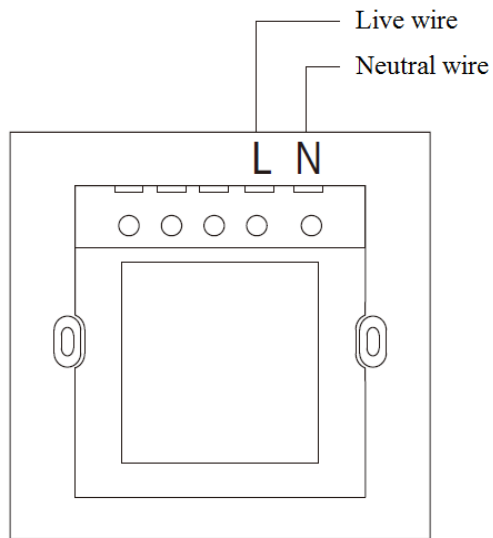

Fig.2
3) Follow the Fig.2 “Wiring diagram” to start wire: